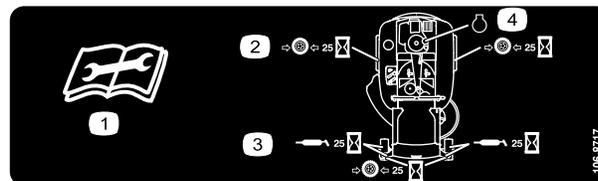

Figure 25
3. Clean the grease fittings (Figure 24 and Figure 25) with a rag. Make sure to scrape any paint off of the front of the fitting(s).